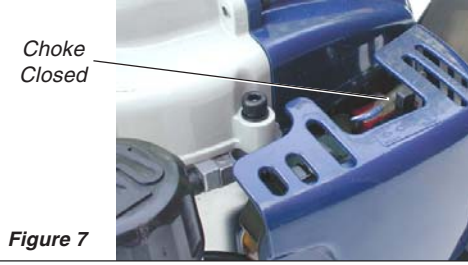

Figure 7
4. (Cold engine only) Choke the engine by moving the choke lever forward to the "closed" position. See Figure 7.